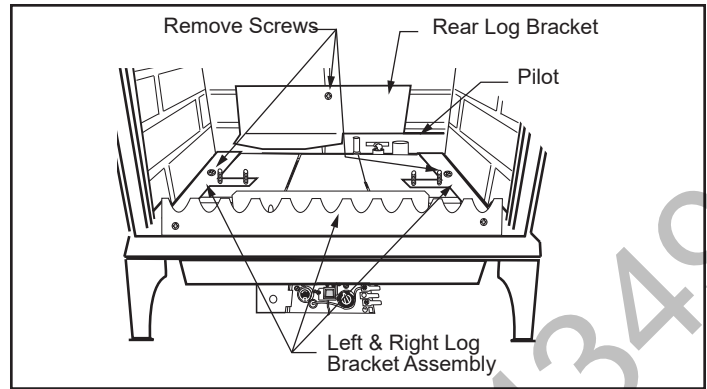

Figure 50 - Remove rear log bracket and left and right log bracket assembly.
5. Remove the rear log bracket by unfastening the screw. (Figure 50)
6. Remove the right and left log bracket assembly by unfastening the two screws which hold the burner in place. (Figure 50)
1. Locate pilot. (Figure 50)